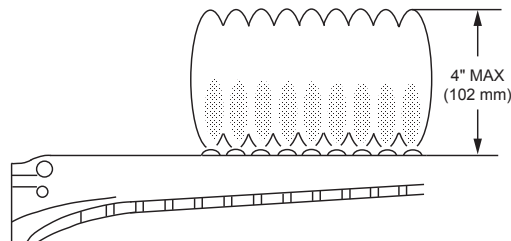
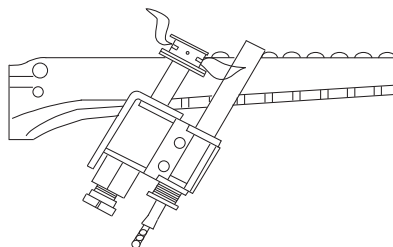

Figure 71. Main Burner Flame
Figure 72. Millivolt Pilot Burner Flame
4. Make visual check of the burner and pilot flames. Yellow flame means restriction of the air openings. Lifting or blowing flame indicates high gas pressure. Low flame means low gas pressure. Should the latter occur, shut the heater off and contact your gas supplier or qualified service agency. See **Figure 71** and **Figure 72**.